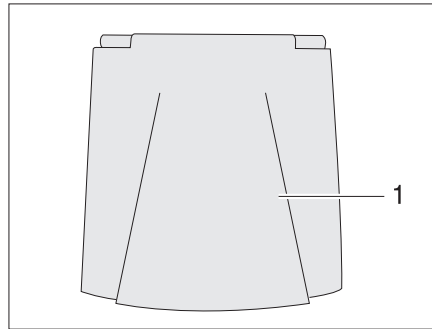

Fig. 37 External flap 240 V connection
*Opening:* ■ Swivel the external flap (Fig. 37,1) upward.
*Closing:* ■ Swivel the external flap (Fig. 37,1) downward and press it shut.